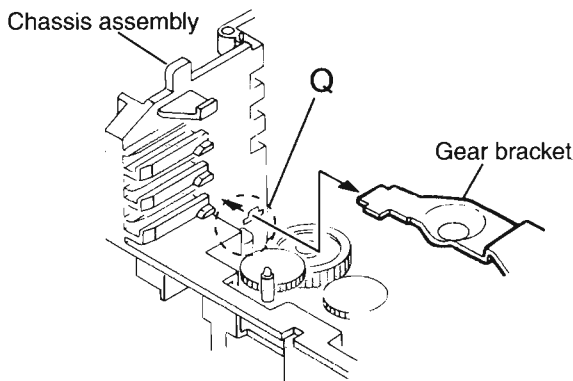

Fig.19
1. Remove the two screws 10 retaining the gear bracket (See Fig. 19).
2. While pressing the pawl "P" fixing the gear bracket in the arrow direction, remove the gear bracket (See Fig. 19).
4. Remove the belts respectively from the right and left actuator motor pulleys and pulley gears(See Fig. 19).